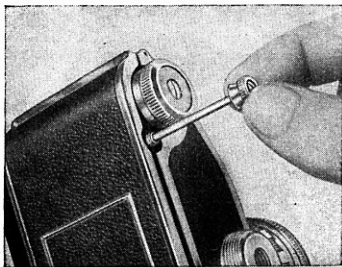

Fig. 41
If the exposed film is wound into a cartridge instead of on to the take-up spool, rewinding is not necessary. As soon as the film is used up (film transport lever (6) can no longer be wound up), the film is cut off with the built-in knife (34). Loosen the knife release (35) by turning it to the left. It is fastened on one end of a thin bar, on the other end of which is the cutting knife (34). If you draw out the knife release (35) from the camera body (about 4 cm) (Fig. 41), the film-cutter (34) crosses the film-track and cuts off the film-strip. This done, move the knob (35) into the camera again and screw it tight by turning it to the right. By two